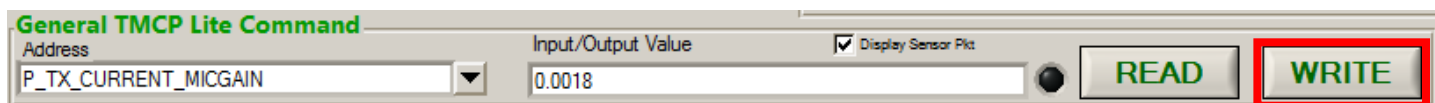

Figure 53 Adjusting P_TX_CURRENT_MICGAIN
- 5) Adjust **P_TX_CURRENT_MICGAIN** (typical 0.0018) until modulation analyzer reads 90% AM down mod (+/- 1%) when MIC Key is engaged. (Figure 53)